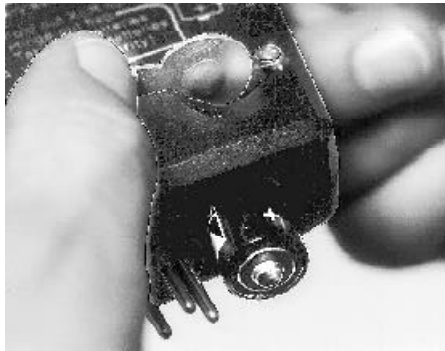

Fig 1 Insertion of batteries
- Insert two 1.5 V AA size alkaline batteries as shown in Fig 1. The direction is labeled on the rear side of the instrument.